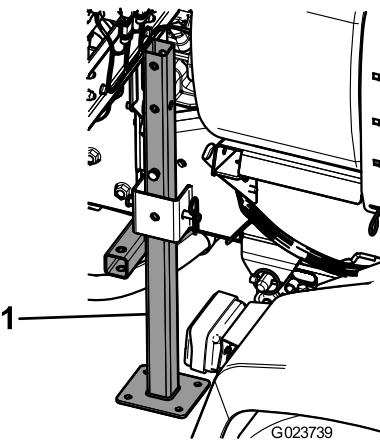

Figure 41
3. Insert the rear jack stands from the bottom, up into the frame, near the rear tie-down points (Figure 41).